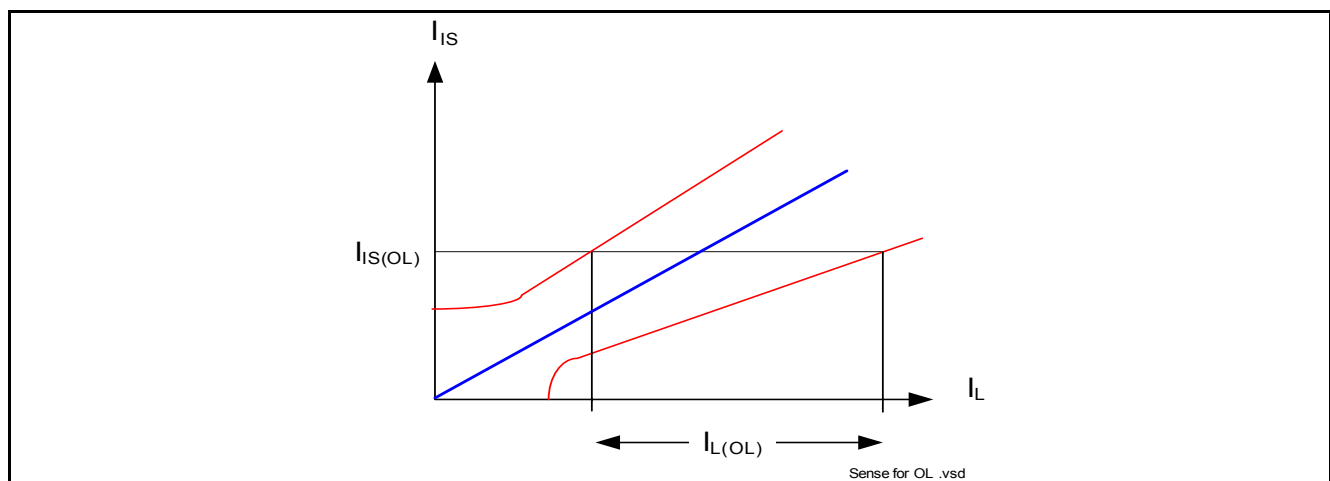

**Figure 22** Current Sense Settling / Disabling Timing
**Figure 22** shows the timing during settling and disabling of the SENSE.